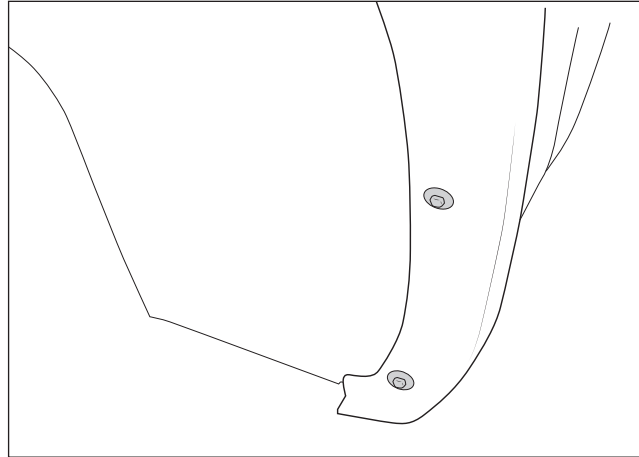

Figure 1
2. Remove and discard the two (2) bolts attaching the flare to fender panel (Fig. 1).